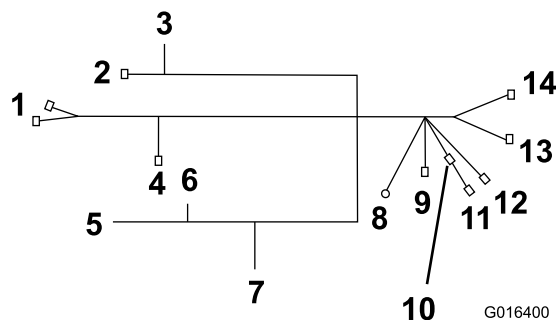

Figure 14
- Thread the wiring harness branch with the following connections up into the side cover, where the main harness enters the panel (refer to (Figure 14):
1. Take the branch of the wire harness with the connectors to the left-hand rear lamp, the license plate lamp, and the right-hand rear lamp (Figure 14).
1. Take the branch of the wire harness with connectors to the left-hand lamp and indicator and the horn (Figure 14).